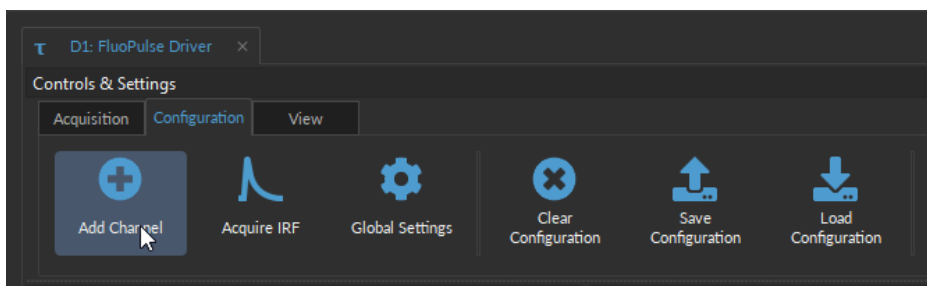

Figure 2.3: Add Channel to configure the *FluoPulse* system
2. Add and configure a measurement channel according to Doric Neuroscience Studio manual, Chapter 17. Briefly, select the *Add Channel* button (Fig. 2.3). This opens the *FluoPulse Configuration* pop-up window, where you can set the detector, triggering, and fitting options. In particular, make sure to specify the correct laser channel (E1, E2, or E3) that you will need for your experiment.